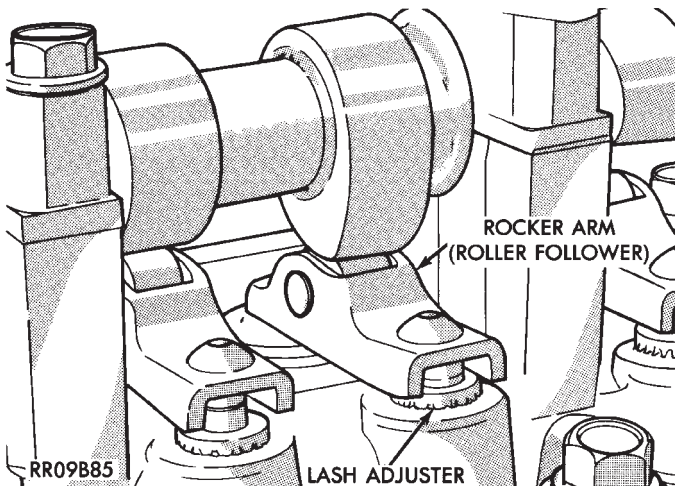

Fig. 6 Rocker Arm and Lash Adjuster
- (1) Remove the cylinder head cover and curtain.
- (2) Mark rocker arms for reinstallation in the same position (Fig. 6).